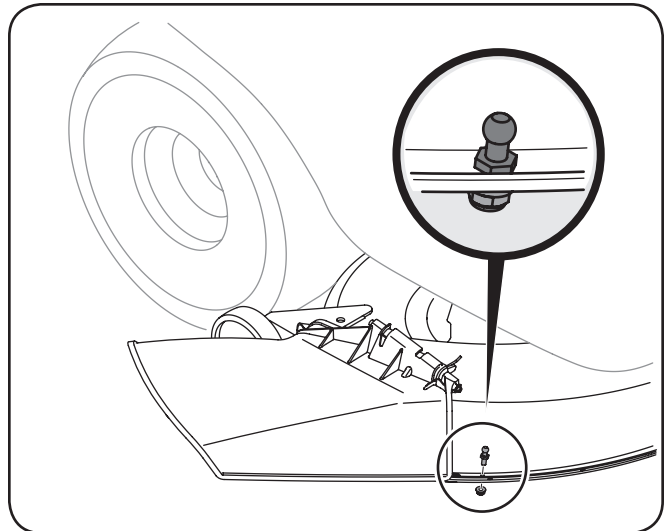

Figure 4-21
- Install the ball pin from your hardware pack into the hole in the front of the mower deck as seen in Fig. 4-21, and secure with the supplied flange lock nut.